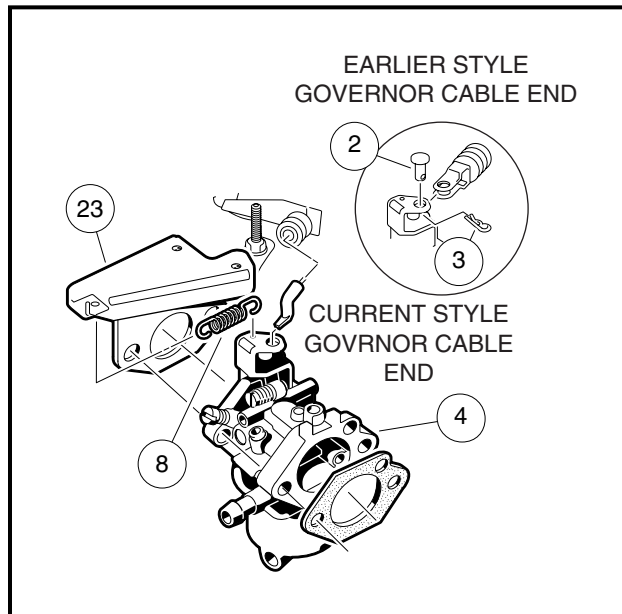

Figure 18-36 Governor Cable Connection
- 5.7. Tighten muffler clamp (6) to 40 in-lb (4.5 N·m).
6. Install carburetor (4), throttle spring (8) and the throttle spring bracket (23). Tighten to 50 in-lb (5.6 N·m) (**Figure 18-36, Page 18-20**).
8.1. Install governor cable clevis pin (2) through cable clevis and throttle valve lever, and install a new cotter pin (3) (Figure 18-36, Page 18-20).
9.1. Install 'Z' shaped cable end into carburetor throttle valve lever (Figure 18-36, Page 18-20).